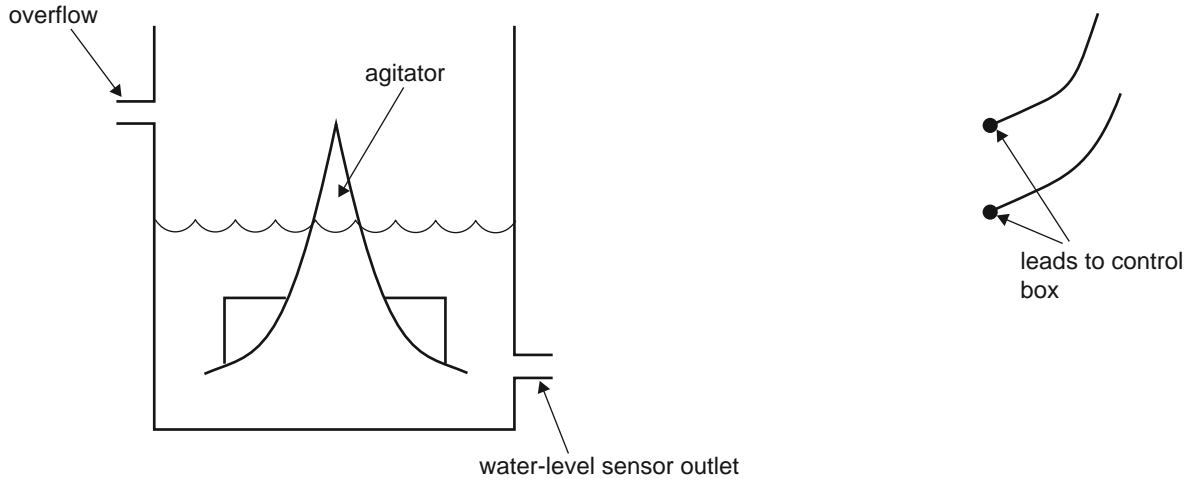

Figure 8
- a. On Figure 8, design a safe water-level sensing device that will detect water overflow and send a warning signal to the control box. Label all parts relevant to your design. 3 marks